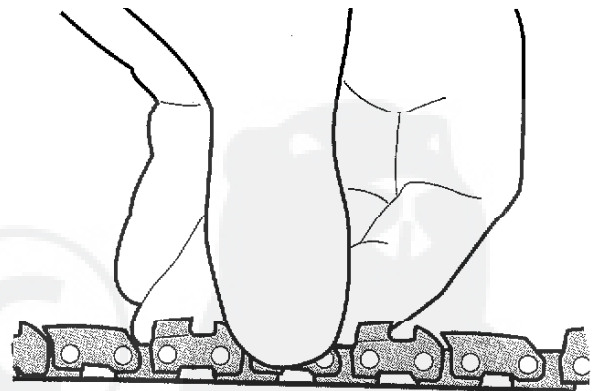

Figure 14
4. Pull the chain by hand along the top of the guide bar several times from the engine to the bar's tip. The chain should feel snug but still pull freely. See Figure 14.